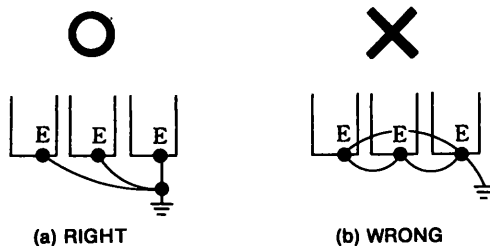
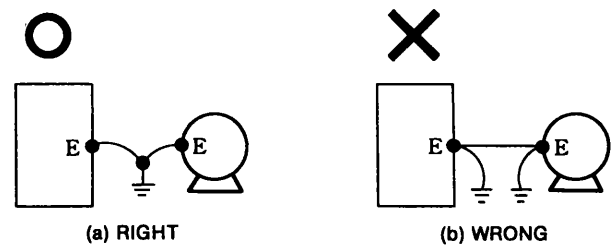

Fig.10.10 How to Ground Several Control Devices
Fig.10.11 How to Ground Motor and Control Device
- (1) Connect the control device grounding terminal B to 100Ω max..
- (2) Do not use the grounding cable or electrode together with welder or other heavy duty equipment. Separate the grounding wire away from that of large-current electrical equipment.
- (3) Determine the grounding cable size in conformity with the technical standard for electric facilities; and make the length as short as possible.
- (4) Even when the control device or motor is grounded through channel base, iron plate, etc., connect the grounding terminal to ground without fail.
- (5) When there are several control devices, perform grounding as shown in Fig. 10.10 (a) without making a loop as shown in (b). No loop is allowed between control device and motor. (Fig.10.11(b))